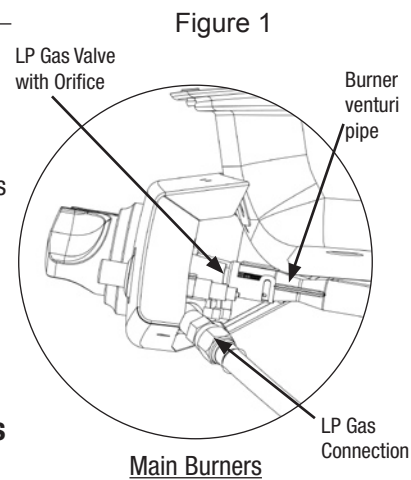

Figure 1
2. Please refer to diagram for proper installation. (Figure 1)